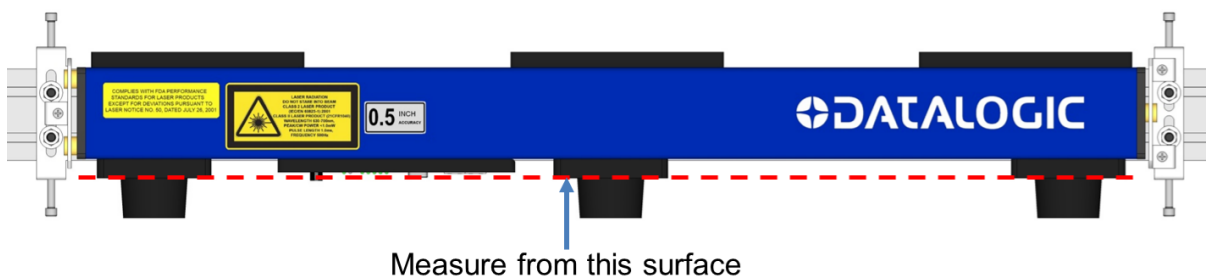

Figure 105: Height Reference
1. Make sure the RangeFinder is mounted at the correct height (typically 1924 mm [75.75 in] from the left and right laser housings to the conveyor belt. See *Figure 105: Height Reference*.)